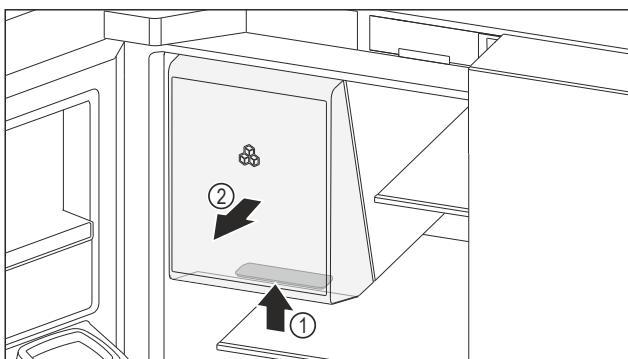

Fig. 166 Removal of ice storage compartment
- Reach the recessed grip Fig. 166 (1) at the bottom of the ice storage compartment and pull out the ice storage compartment forwards at the same time Fig. 166 (2).